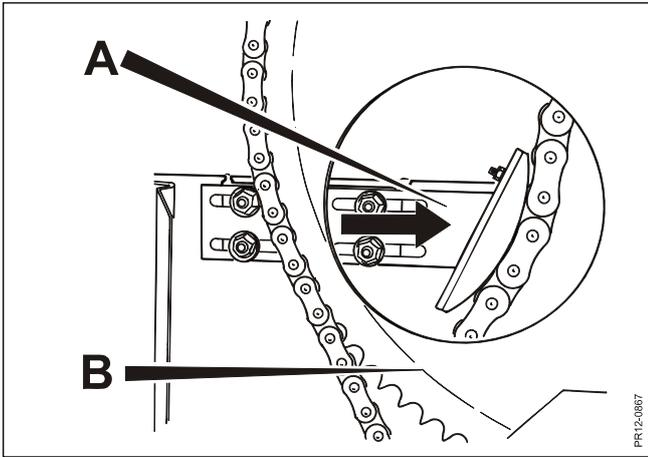

Fig. 9.6
**Fig. 9.6 Tightening of 1 ½" chain:** the chain tightener (A) is loosened, pushed towards the chain and retightened. It may be appropriate to place the chain wheel (B) in a position as shown on the figure.